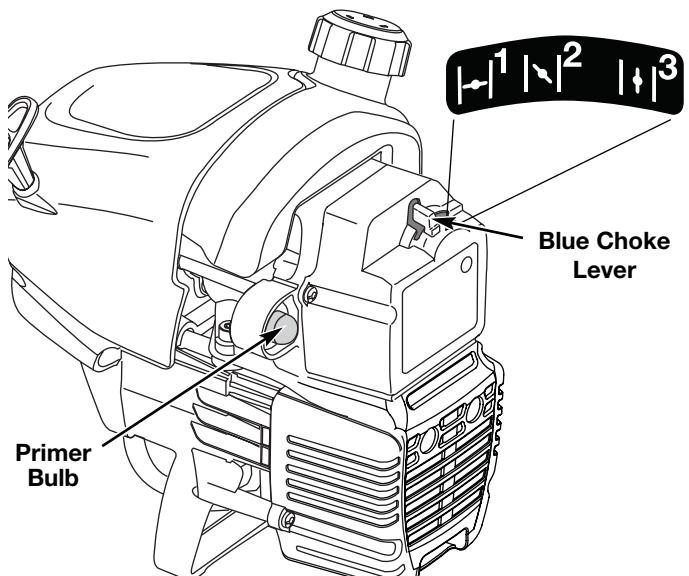

Fig. 7
- 2. Fully press and release the primer bulb 10 times, slowly. Some amount of fuel should be visible in the primer bulb and fuel lines (Fig. 7). If you can't see fuel in the bulb, press and release the bulb as many times as it takes before you can see fuel in it.
- 3. Place the blue choke lever in **Position 1** (Fig. 7).
- 5. Place the blue choke lever in **Position 2** (Fig. 7).
8. Once the engine is warmed up, place the blue choke lever in **Position 3** (Fig. 7). The unit is ready for use.
**IF...** the engine hesitates, return the blue choke lever to Position 2 (Fig. 7) and continue warm-up.